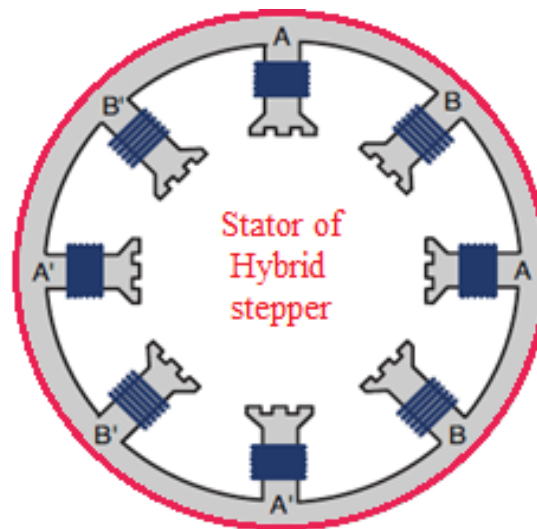

Fig.3.7: Toothed stator of an HY stepper
- The more teeth the stepper has, the better the angular resolution. The rotor in Figure 3.7 has one pair of rotor poles, but other HY steppers may have two, three, or more pairs.
- For this reason, the stator of an HY stepper has teeth that are approximately the same size as the teeth on the rotor. This is shown in Figure 3.7. .
- Like a VR stepper, an HY stepper can have multiple phases, one for each pair of windings. The windings are divided into two phases: A/A' and B/B'. These are the phases labeled in Figure 3.7.